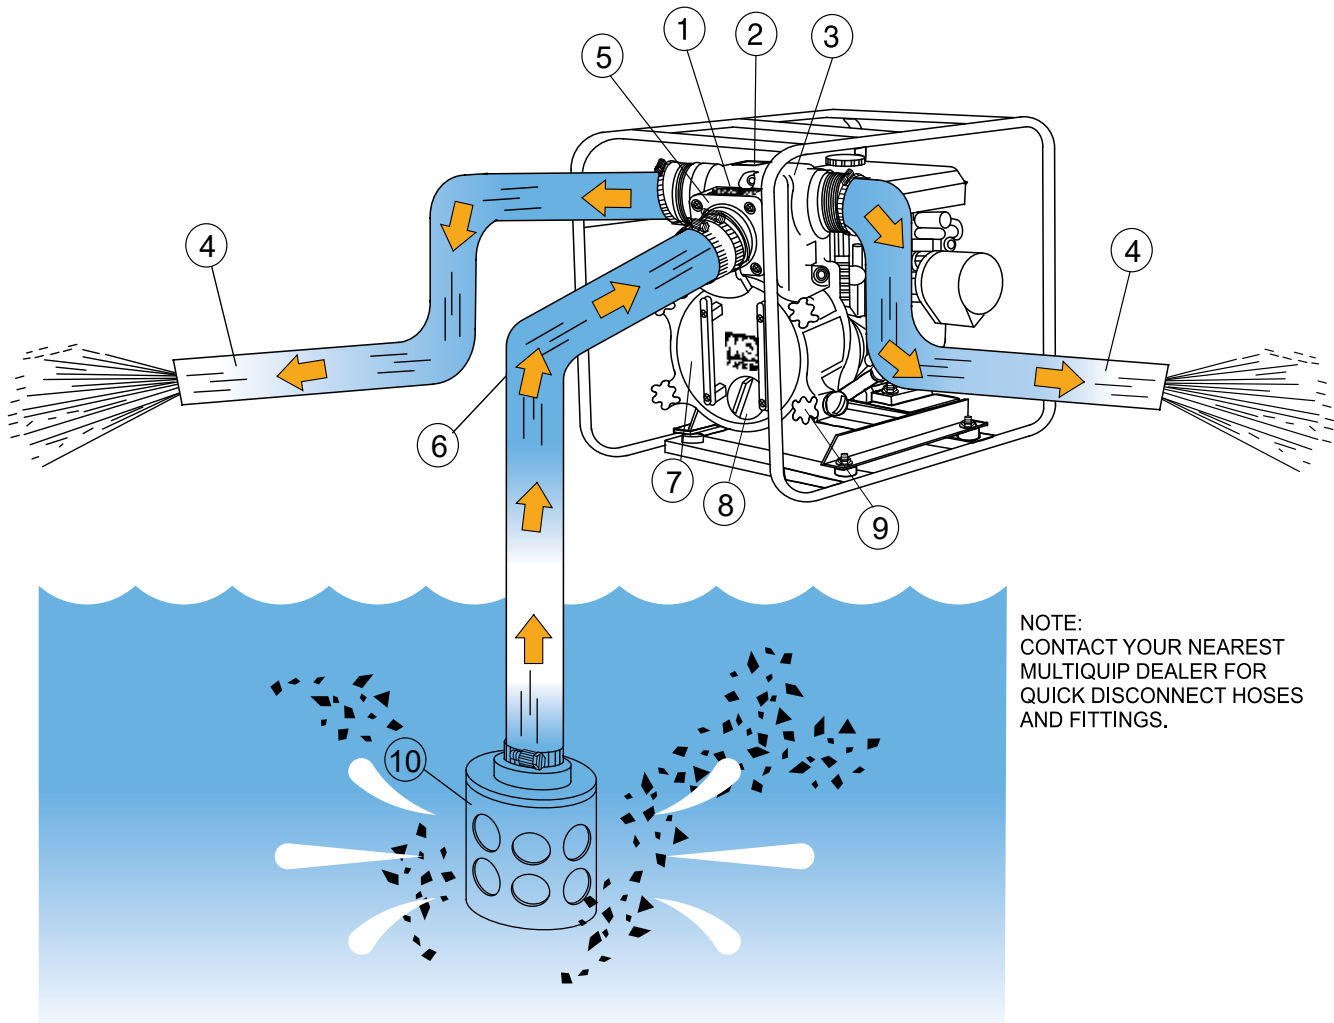

Figure 3. QP4TH Pump Application
Figure 3 shows key component areas of the QP4TH.
Figure 3 shows key components of the QPT4H.
3. Initially prime the pump by removing the fill cap (see Figure 3) and filling the casing with water. If the pump casing is not filled with water prior to operations, it will not be able to start the pumping process and you risk overheating the mechanical seal assembly.